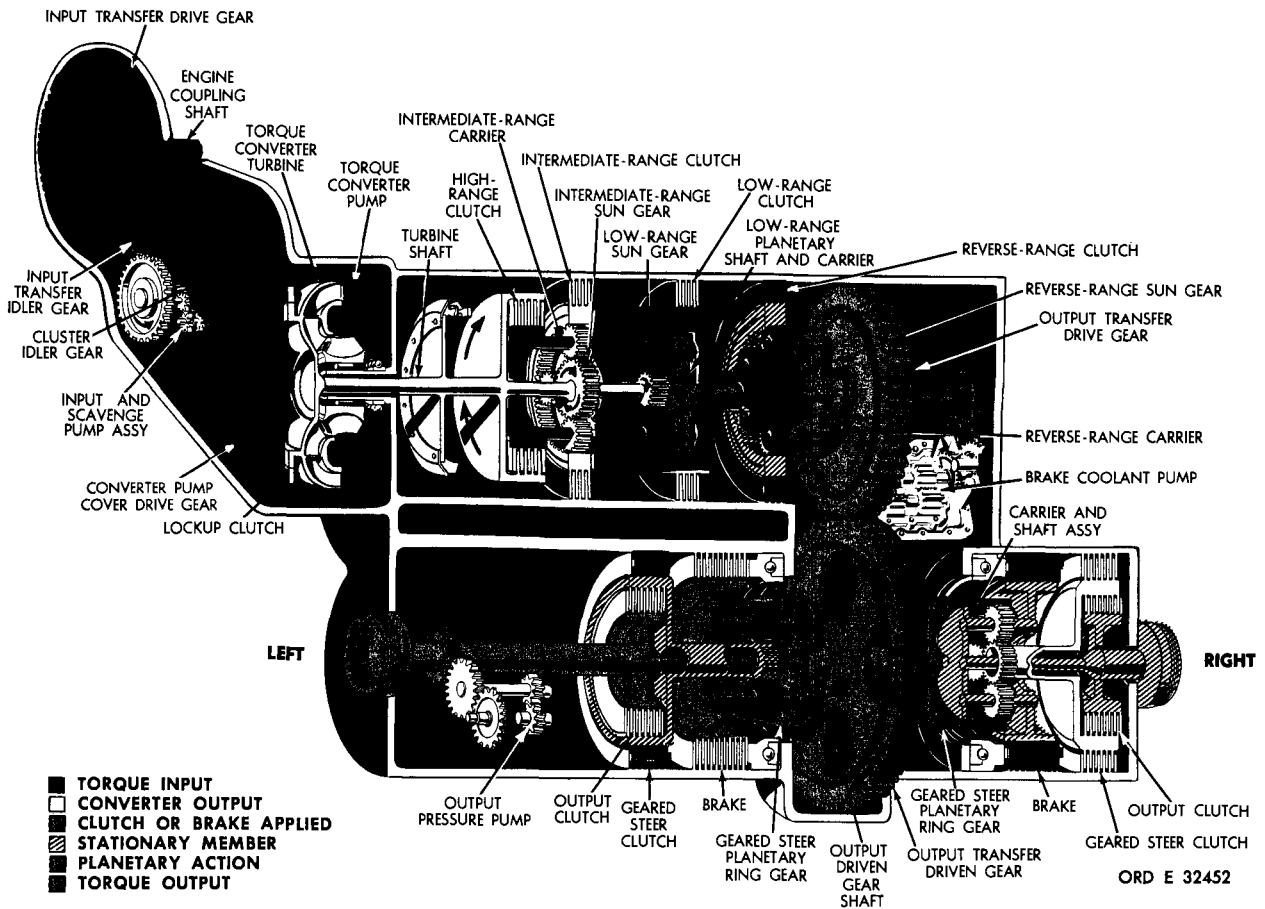

Figure 33. Reverse 1-gear, full-right-steer torque path, converter operation
57. TORQUE PATH - REVERSE 1 GEAR, FULL-RIGHT STEER, CONVERTER OPERATION (fig. 33)